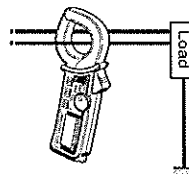

Fig. 1 Load current
- (1) Set the Range Selector Switch to the desired position. Current to measure should be within the selected measuring range.
- (2) Normal measurement (See Fig.1,2): Press the jaw trigger to open the transformer jaws and close them over one conductor only. Measured current value is shown on the display. Earth leakage current or small current that flows through a grounded wire can also be measured by this method.